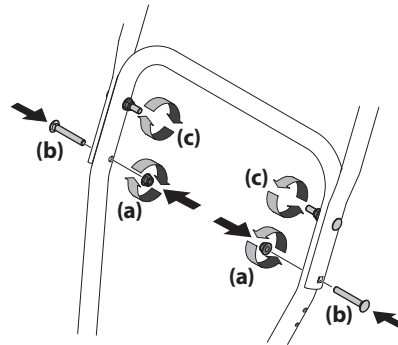

Figure 2-5
- Attach the two carriage screws (b) and nuts (a) removed in Step 2. Finish securing the handle by tightening the top two nuts (c) loosened in Step 2. See Figure 2-5.